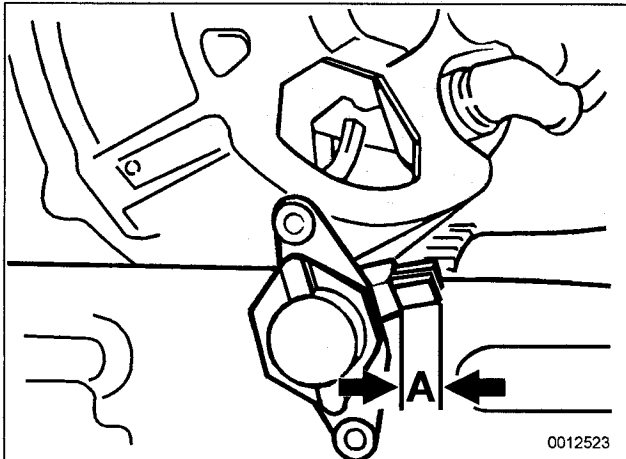

Fig. 7. Regulator brush protrusion (A).
2. Clean brush contact surfaces and measure brush protrusion. See Fig. 7.